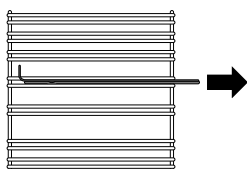

Fig. 2.15
The graduated temperature scale on the control knob (Fig.2-15) allows you to either cook slowly for several hours (A) or all day while you are out (B).
Lift up the front of the shelf so the back of the shelf will pass under the shelf stop and then pull the shelf forward (**Fig. 2.15**).